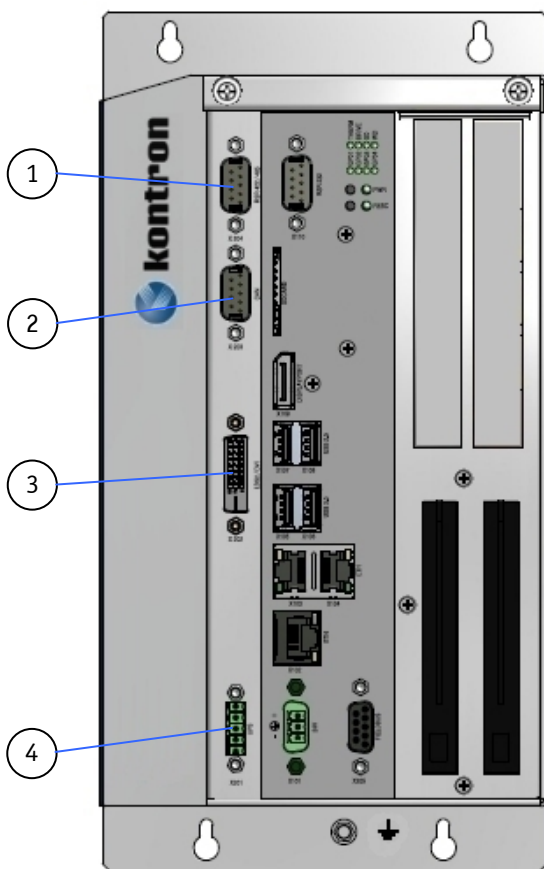
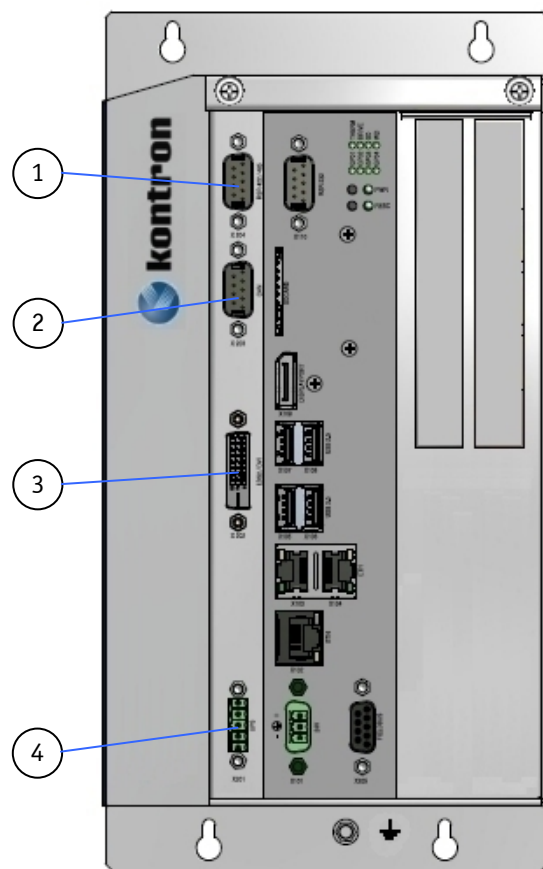

Fig. 37: KBox C-101 with removable drive bays and optional interfaces
Fig. 38: KBox C-101 with optional interfaces and without removable drive bays and
Legend for Fig. 37 and Fig. 38:
Your KBox C-101 can be extended, via an adapter module, with an additional serial interfaces RS232/RS422. This serial port (Fig. 37, pos. 1) is an optional port available as 9-pin D-SUB connector (male), marked as "RS232/422" on the front side of the system. It must be factory configured as RS232 or RS422 corresponding your ordered port configuration. The serial port will be configured via an on-board DIP switch (SW1) for RS232 or RS422 serial communication. The corresponding DIP switch is not accessible for end user.
Your KBox C-101 can be extended, via an adapter module, with a CAN port that allows you CANBus communication. The optional CAN port (Fig. 37, pos. 2) a sub-D 9 pin male connector is galvanically isolated (500V), For pin assignment refer to the section 18.2.3.
Your KBox C-101 can be extended with a DVI-D interface. The DVI-D port (Single Link) (Fig. 37, pos. 3) marked "DVI" supports digital connections. Digital devices can be connected directly to this interface of the KBox C-101.